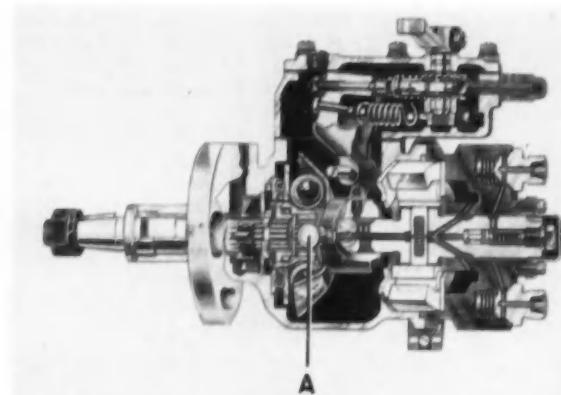
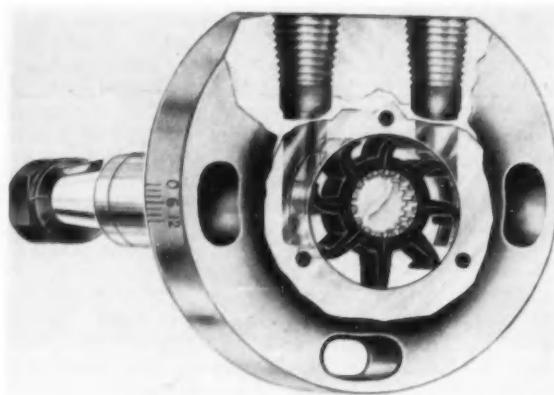

Fig. 9—Injection timing and fuel supply.
Fig. 10—Fuel supply pump.
In order to have fixed timing, a pin (A) is installed (Fig. 9) which prevents the sleeve from turning. If an adjustable pin is used (also Fig. 9),
Automatic timing is also illustrated in Fig. 9. Air in the engine intake manifold is allowed to flow through a small venturi. The venturi is connected to a diaphragm which is linked to the injection timing lever and the movable pin. A small pressure drop will turn the sleeve since the turning force required is only the frictional force of the sleeve on the rotating shaft.
The fuel supply pump (B, Fig. 9) is mounted on the drive shaft in the forward end of the injection pump housing. The supply pump consists of a simple flexible-vane impeller surrounded by an eccentric bore, and is reversible and self-regulating. An enlarged view of the supply pump is shown in Fig. 10.